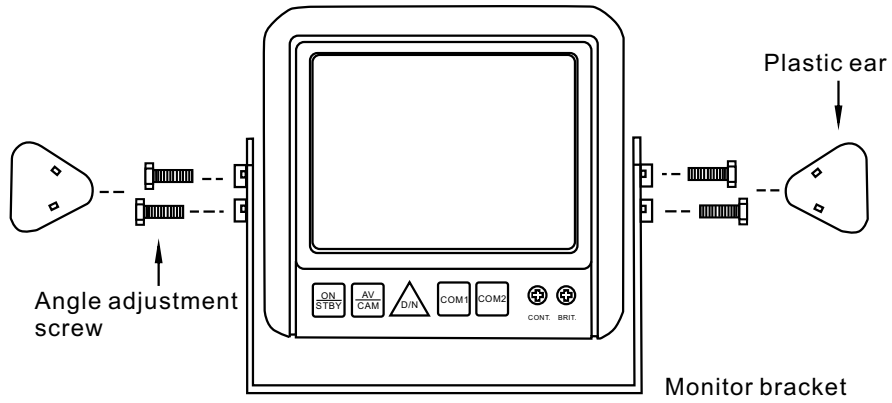

Fig.3 Mounting the bracket
3. Adjust mounting angle of the monitor to allow driver to easily view the screen from all seat positions. (Fig. 3)